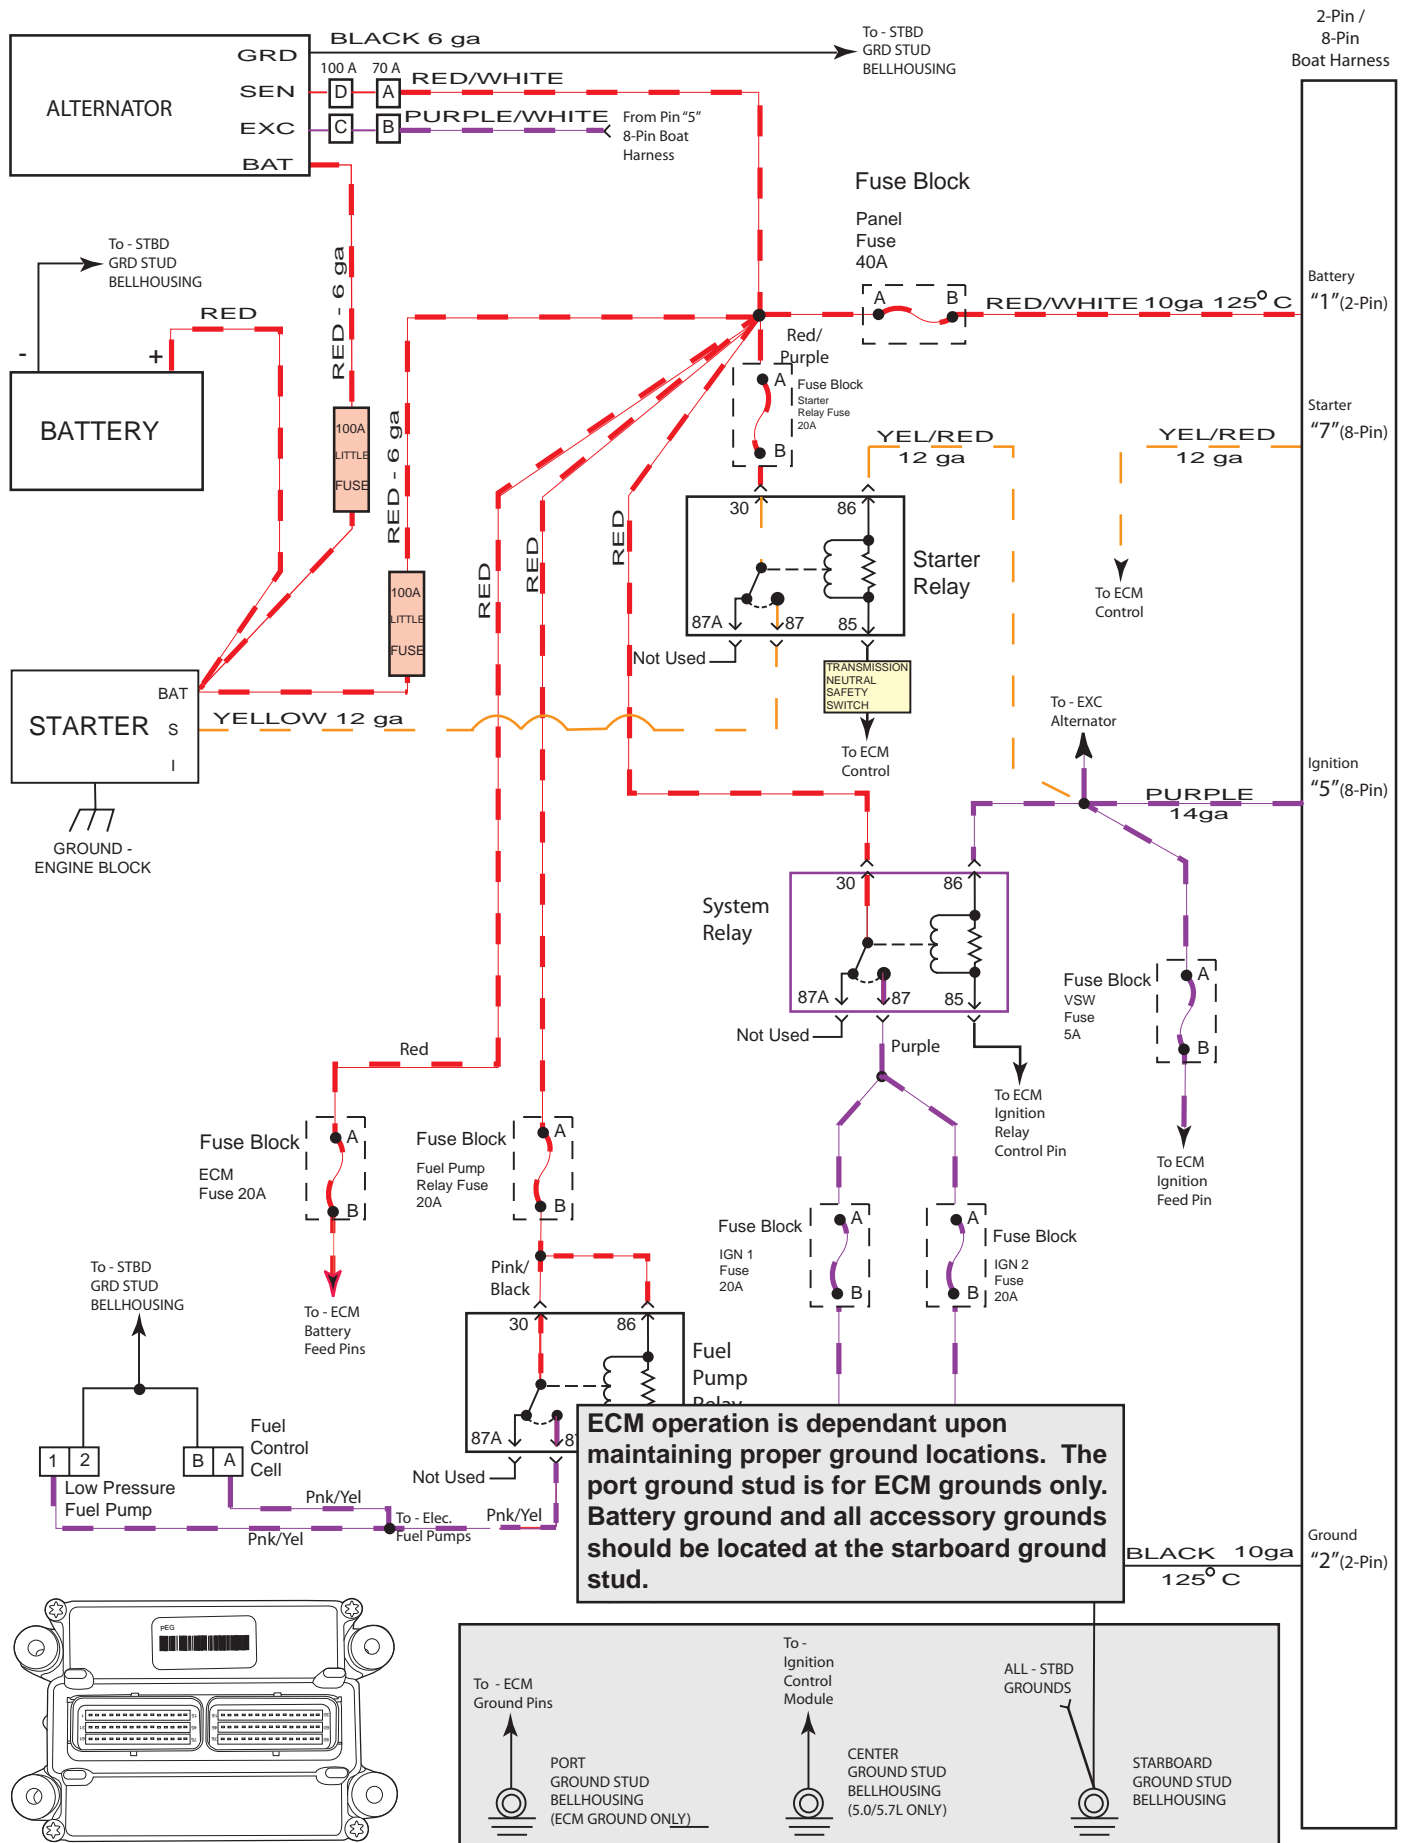

Figure 5-5 System Power Ground Locations
2. Refer to Figure 5-5. Inspect the engine power and ground locations. Clean and repair these connections as necessary. Proper ground connections are very important for engine operation. The flywheel housing's port ground stud should have only the ECM grounds from the main engine harness attached. The flywheel housing's starboard ground stud should be used for the battery, all other main engine harness grounds, and all accessory grounds.